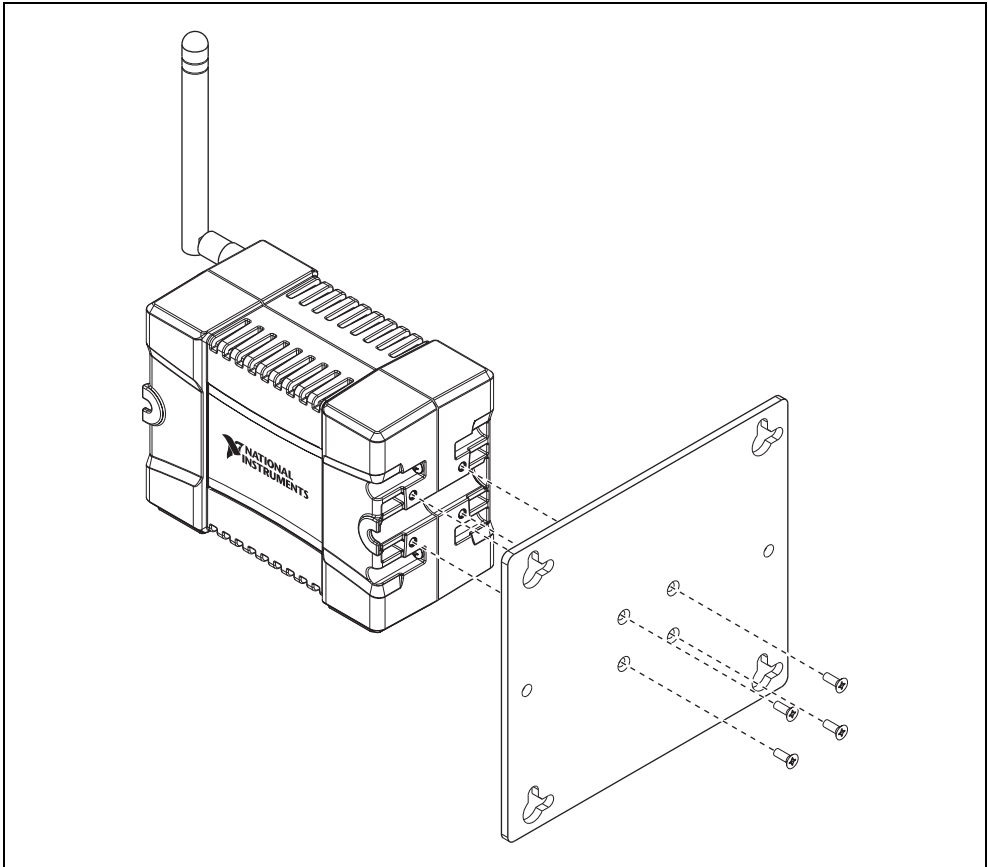

Figure 9. Mounting the NI WSN-9791 to the Panel Mount Plate
1. Fasten the plate to the device using a number 1 Phillips screwdriver and four 4-20, 5/16 inch length thread-forming screws, as shown in Figure 9. The screws are included in the NI WSN-3283 panel mount kit.